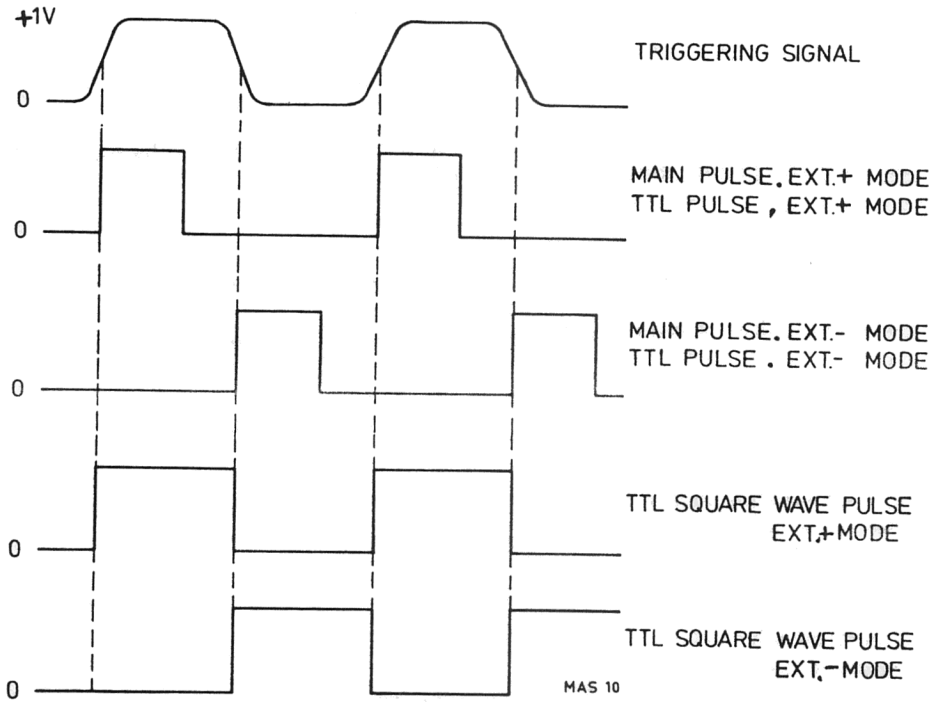

Fig. VI-7 External triggering PM 5705
- Select triggering at positive or negative slope of signal by setting switch REPETITION TIME to EXT+ or EXT— . Set duration to 10 μ s. Refer to fig. VI-7.
- Observe output pulses having same repetition time as the triggering signal but a pulse duration as set with the DURATION controls. Fig. VI-7.
- Observe an output signal similar to fig. VI-7.
- Note that repetition time and duration are determined by the triggering signal. Refer to fig. VI-7.